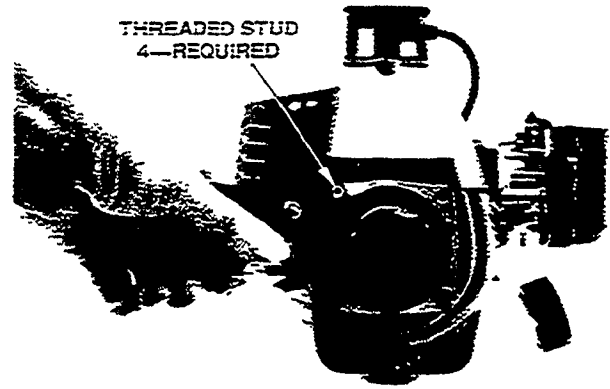

Figure 4
- Install the four (4) threaded studs into the engine, short thread end first, and tighten snugly using pliers. Be careful not to damage the threads. (Figure 4).